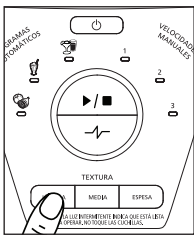

Fig. 21
3. To change the texture selection, press one of the three texture selection buttons appropriate for your recipe (Fig. 21).